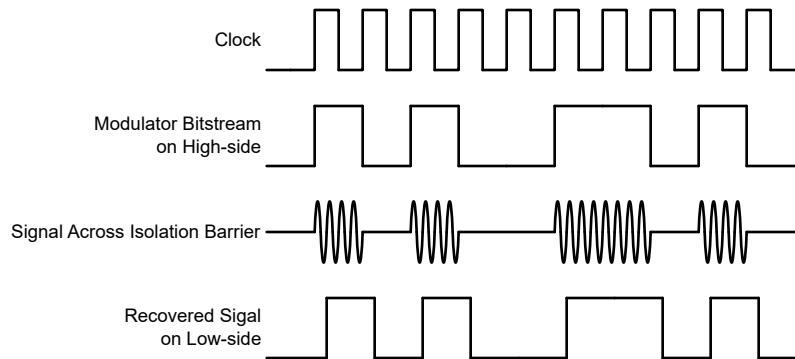

Figure 7-3. OOK-Based Modulation Scheme
The AMC1306M05-Q1 uses an on-off keying (OOK) modulation scheme, as shown in Figure 7-3, to transmit the modulator output bitstream across the SiO_2 -based isolation barrier. The transmit driver (TX) shown in the Functional Block Diagram transmits an internally generated, high-frequency carrier across the isolation barrier to represent a digital one and does not send a signal to represent a digital zero. The nominal frequency of the carrier used inside the AMC1306M05-Q1 is 480 MHz.